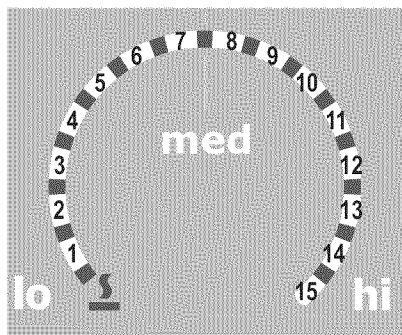

Fig. 9 - Power levels
**HOT SURFACE INDICATOR LIGHT** - After using any of the single, dual or triple radiant element positions the cooktop will become very hot. Even after turning the control to OFF, the cooktop will remain hot for some time. The hot surface indicator light will turn on (Fig. 9) if the cooktop is still hot and will remain on until the heating surface area has cooled sufficiently. If the indicator light is on, the control can still be turned ON again for use.